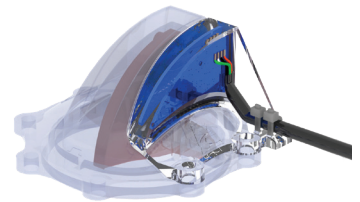

Fig.1.2
- Insert by hand the (6) shorter stainless steel screws into the x2 front holes, x2 rear holes, and x2 holes on the right-side (with the lid scale facing you). Do not tighten the screws at this stage.
- Mount the FlowVis Digital Sensor on the left-side (with the lid scale facing you) of the FlowVis lid (see fig.1.2). Insert by hand the (2) longer stainless screws. Do not tighten at this stage.